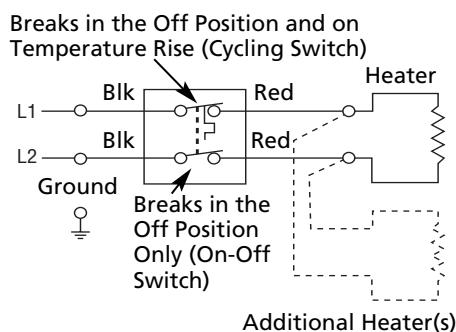

Figure 13 – 3UG32D Thermostat Wiring Connections
4. Connect thermostat to baseboard heater and power wiring per wiring diagram (Figure 13) using properly sized listed wire nuts.